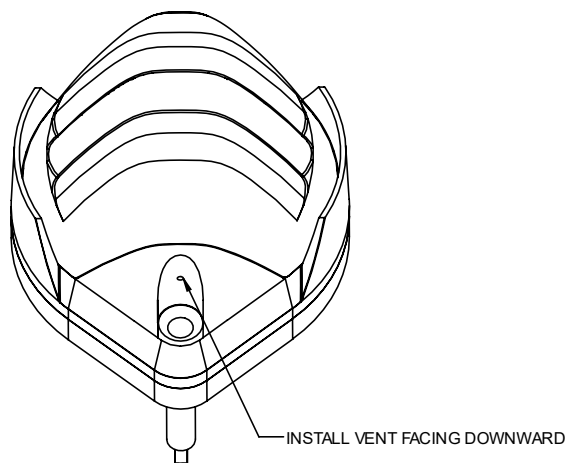

Figure 5-2
- a) Install with vent hole facing downward (*Figure 5-2*)